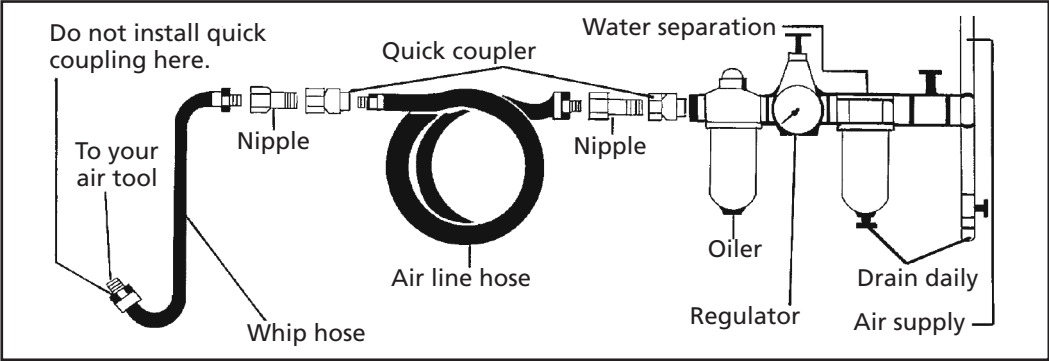

FIG.1
8.2 RECOMMENDED AIR SUPPLY SET UP – FIG. 1